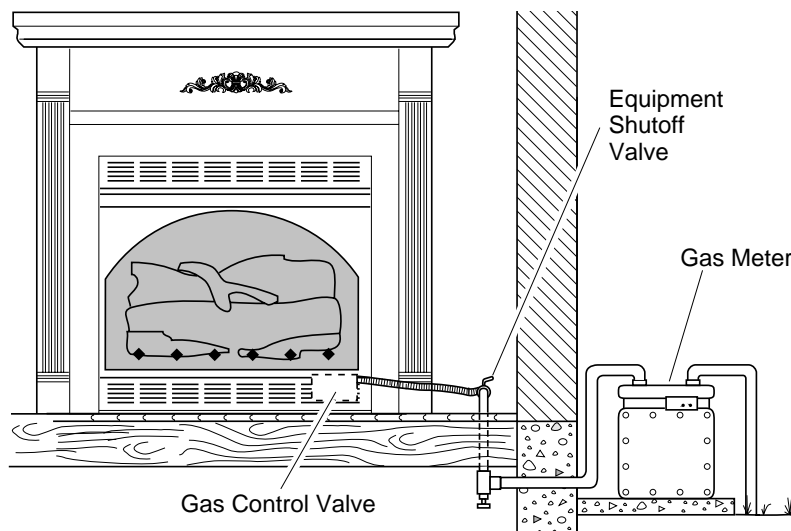

Figure 21 - Checking Gas Joints
3. Check all joints from gas meter to equipment shutoff valve (see Figure 21). Apply mixture of liquid soap and water to gas joints. Bubbles forming show a leak.
4. Check all joints from equipment shutoff valve to gas control valve (see Figure 21). Apply mixture of liquid soap and water to gas joints. Bubbles forming show a leak.